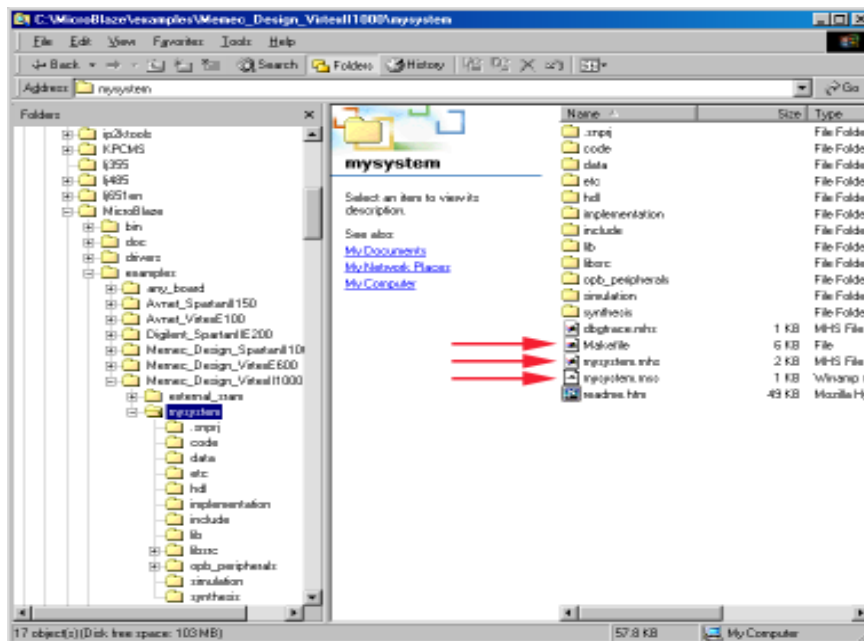

Figure 4. Directory structure
- 1) Locate the mysystem.mhs, mysystem.mss and makefile files in project directory using explorer. This directory is C:\microblaze\examples\Memec_Design_VirtexII1000\mysystem shown in figure 4.